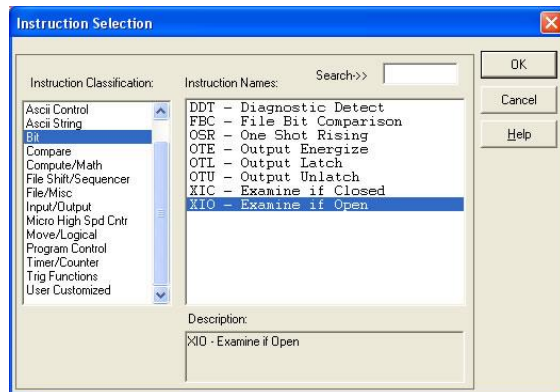

Figure 54: XIO Instruction Selection
- b) Select the “XIO” instruction from the “Bit” classification, then click OK. Refer to Figure 54.